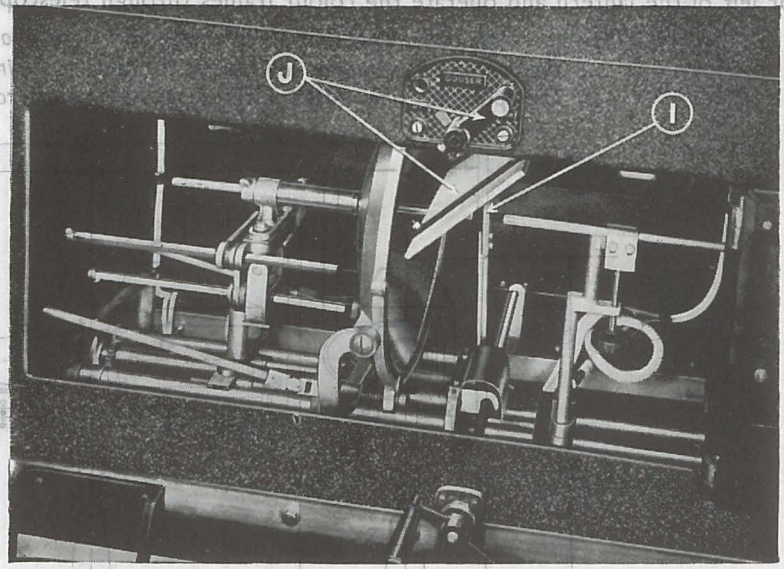

Fig. 2
I. Carbon Positioner (Fig. 2).—Comprises moveable arm, with heat resisting insulated end, location of the "in" and "out" positions being by means of a spring. The arm is set at 5 ins. from back of mirror in the "spot" position.
J. Douser (Fig. 2).—This comprises a heat resisting shield, operated by lever, having spring loaded locating device which secures same in the "up" or "down" positions.